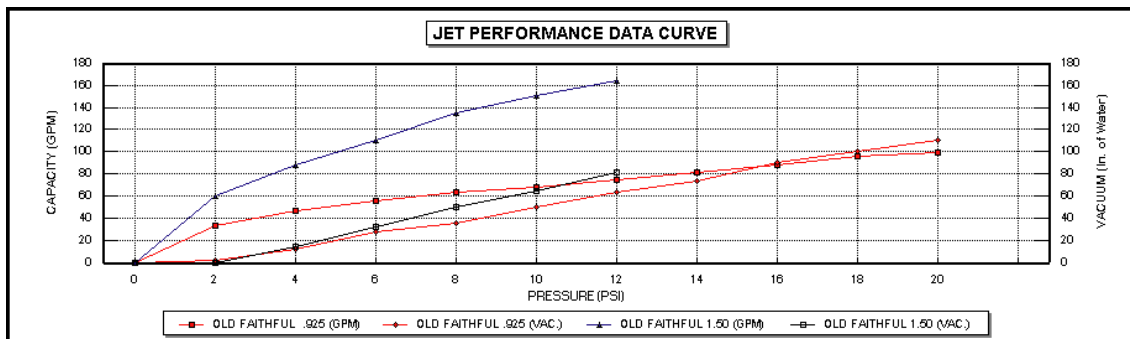

FIG 2.
- See fig. 2 to determine size of pump to run with these Old faithful & Vinyl Liner Jets.